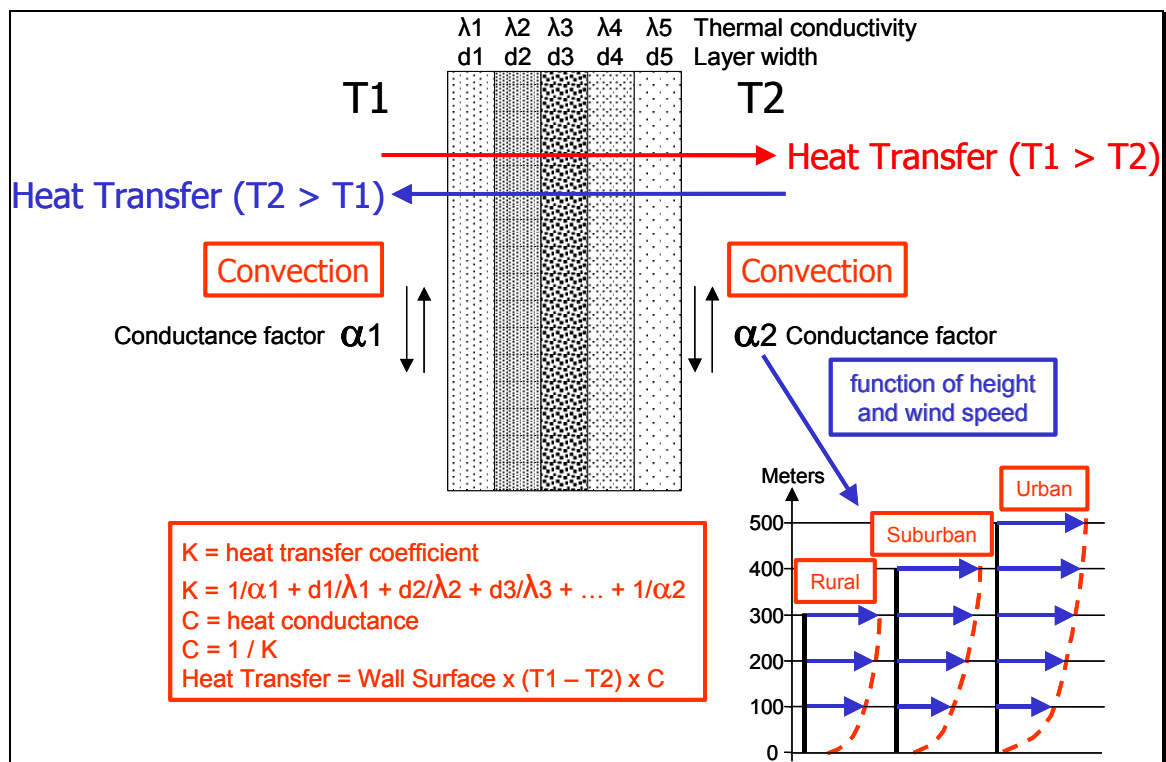
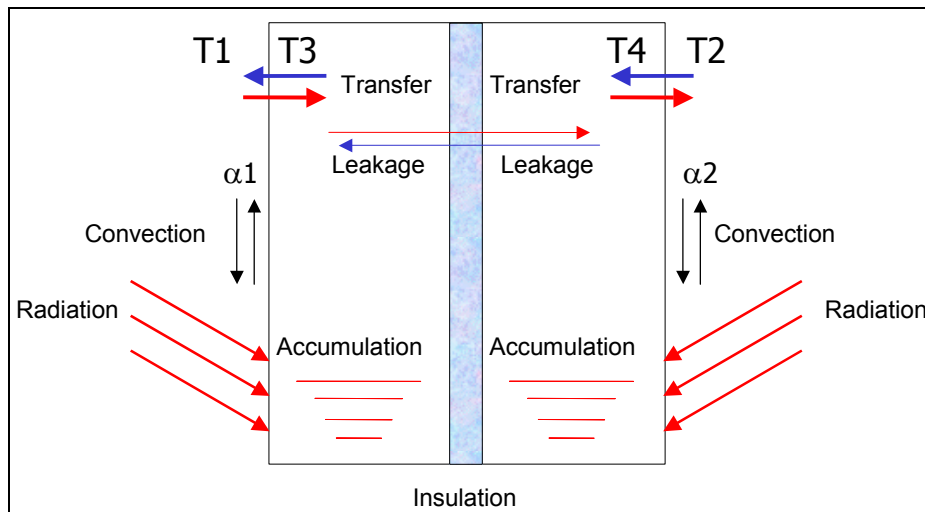

Figure 130: Heat transfer through a wall consisting of material layers
Figure 132: A complete wall construction definition
A wall construction consists of several layers of material. Each material layer has a conductance value (λ) and a thickness (d), giving a material layer resistance by dividing its thickness by its conductance value (d/λ). The resistance of the wall construction is then the sum of these material layer resistances. Figure 130 shows a wall-decomposition in material layers, each having their layer width.
You can also check the "**Increase with height**" checkmark. Together with what you filled in for the environment (see also Figure 130: rural, suburban or urban) in the building properties, VRVPro adapts these outside surface conductance values in function of the height.
Figure 132 shows all aspects of a wall to consider during a load calculation, but also during a temperature simulation (see chapter 6):
The heat transfer through a wall now becomes a function of the time: a wall releases a part of the heat it has accumulated, while it also accumulates new heat. The simple heat transfer shown in Figure 130 now splits up in three transfers, as shown in Figure 132:
In addition to the sun data, VRVPro also needs the ambient temperature data, to calculate the heat transfer through the walls (see section 5.5 and Figure 132). It derives these data from a climate file, explained in section 5.8. By default, VRVPro uses 40 climate data, giving 40 load calculations to get the maximum from.
1. Define the wall temperature values through a simple heat transmission calculation, by using the conductance values of the materials, including the surface conductance factors. This gives a first value for the temperature values T3 and T4 (see Figure 132).
2. Calculate the heat accumulation in the walls, using the radiation heat and the 4 temperature values (see Figure 132: T1 is the ambient temperature, T2 is the room design temperature, T3 and T4 are the temperature values in the wall, calculated in the first step).